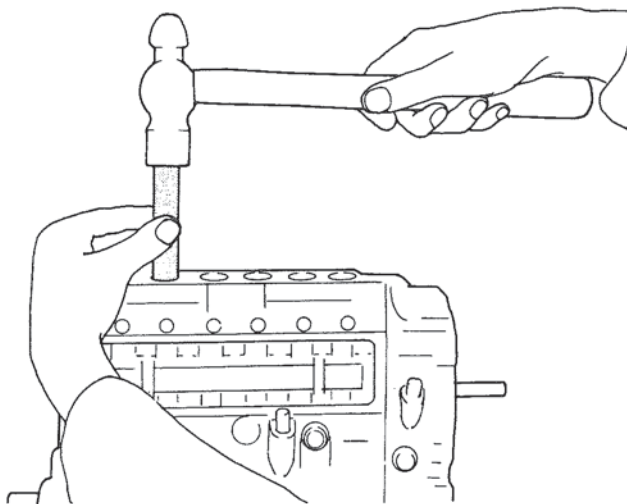

Figure 42. Installing Delivery Valves.
- C. Drive valves in by tapping lightly with wood or plastic hammer until bottoms of valves touch top of plunger. Figure 42.